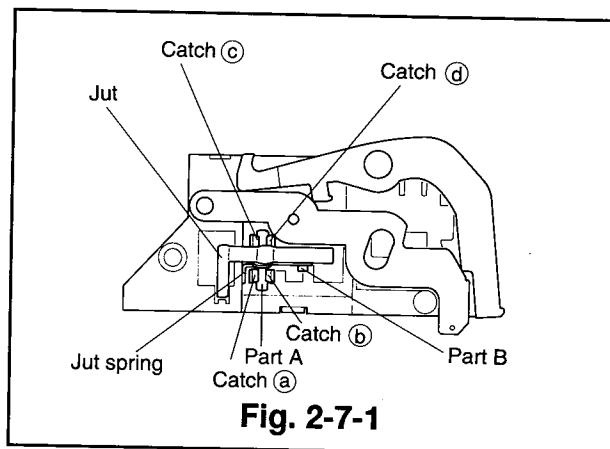

Fig. 2-7-1
- 1 Follow the removal method in Items ① to ⑥ of Para. 2-6.
- 2 Unfasten the four catches (a, b, c and d) shown in Fig. 2-7-1 to remove the jut and the jut spring.
- 1 Install the jut and the jut spring as shown in Fig. 2-7-1. (Insert the jut spring into the part A of the jut before installing the jut. Hook one end of the jut spring with the outside of the catch (a) and the other end with part B of the jut.)
- 2 Install the bottom plate according to the installation method in ③ of Para. 2-6.
- 3 Follow the installation method in Item ⑤ to ⑧ in Para. 2-2.